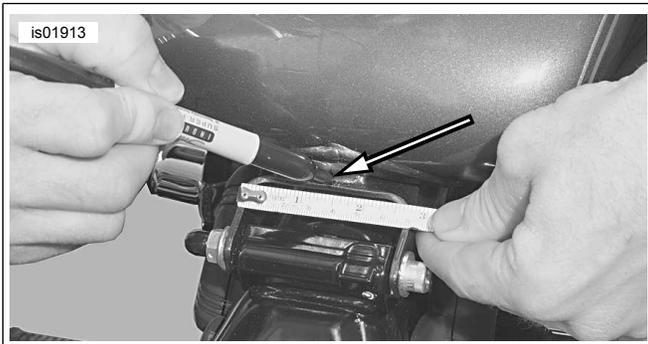

Figure 3. Mark the Fuel Tank Centerline
2. Measure and mark the centerline of the fuel tank, with a wax pencil or water-based marker, at the rear of the tank as shown in Figure 3. Proceed to Step 10.
5. Measure and mark the centerline of the fuel tank, with a wax pencil or water-based marker, at the rear of the tank as shown in Figure 3. Proceed to Step 10.